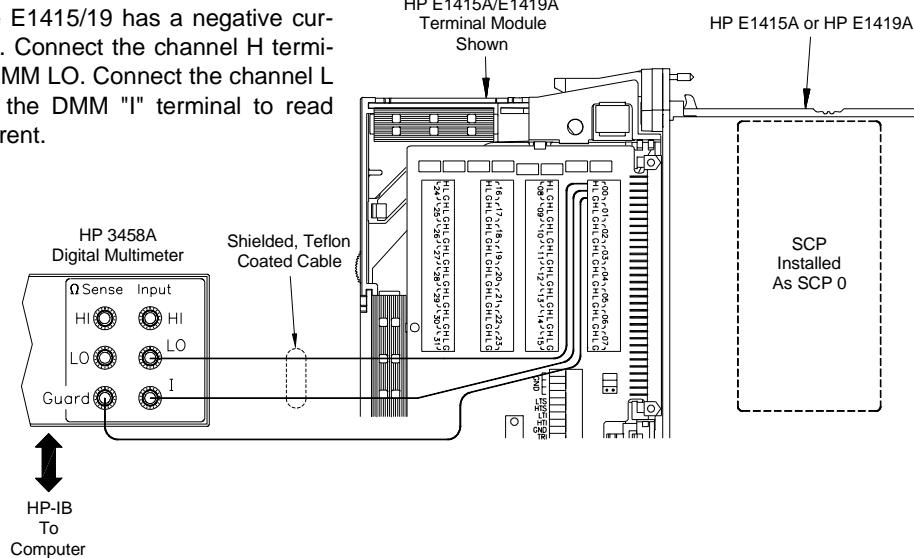

Figure 2-7. Typical Wiring Configurations
- Connect wiring to terminal block and DMM (see Figure 2-7)